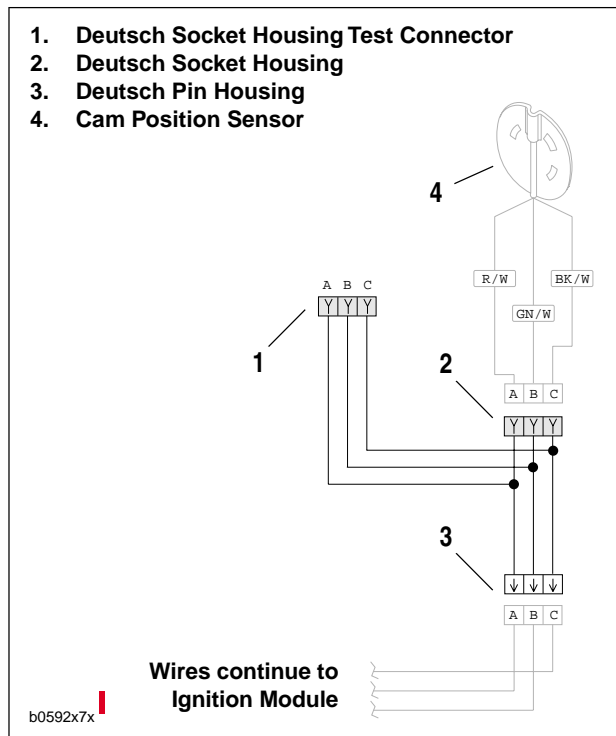

Figure 7-68. Testing Tachometer
1. See Figure 7-68. Connect the speedometer tester to the cam position sensor Deutsch socket housing.